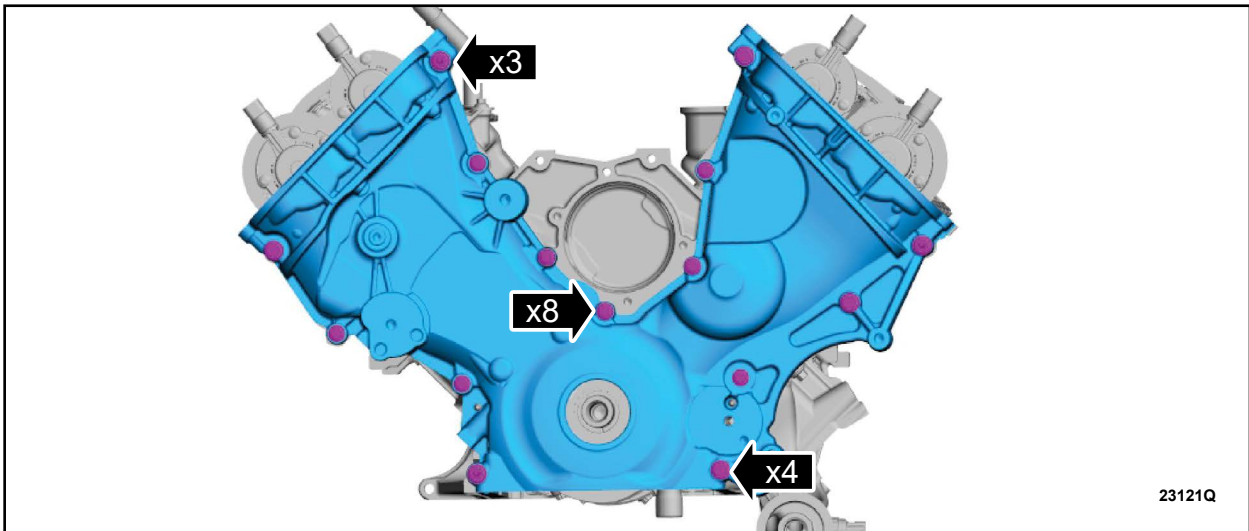

FIGURE 14
28. Remove the fasteners and the front cover. See Figure 14.